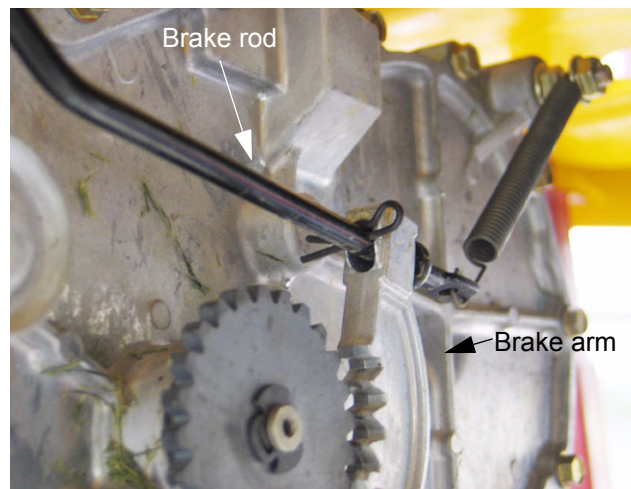

Figure 6.8
- 6.8. Disconnect the brake return spring from the brake arm. See Figure 6.8.